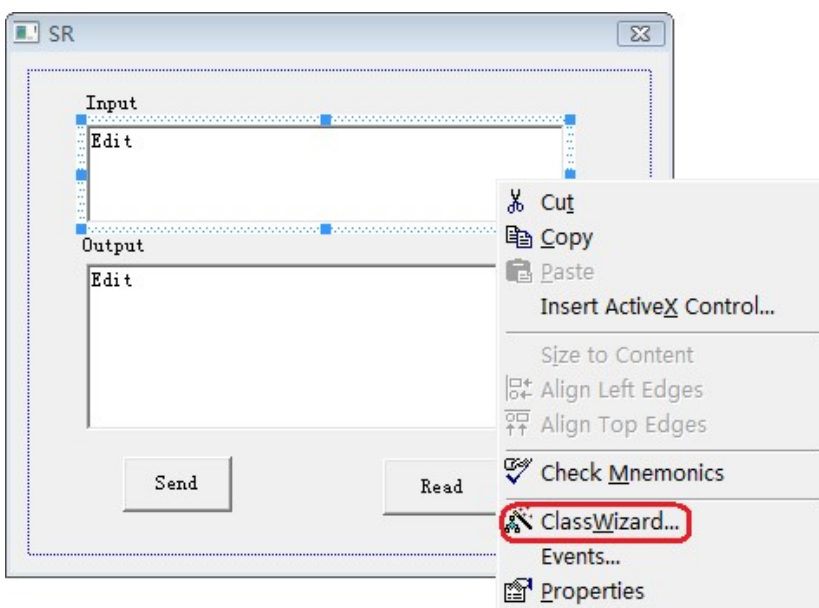
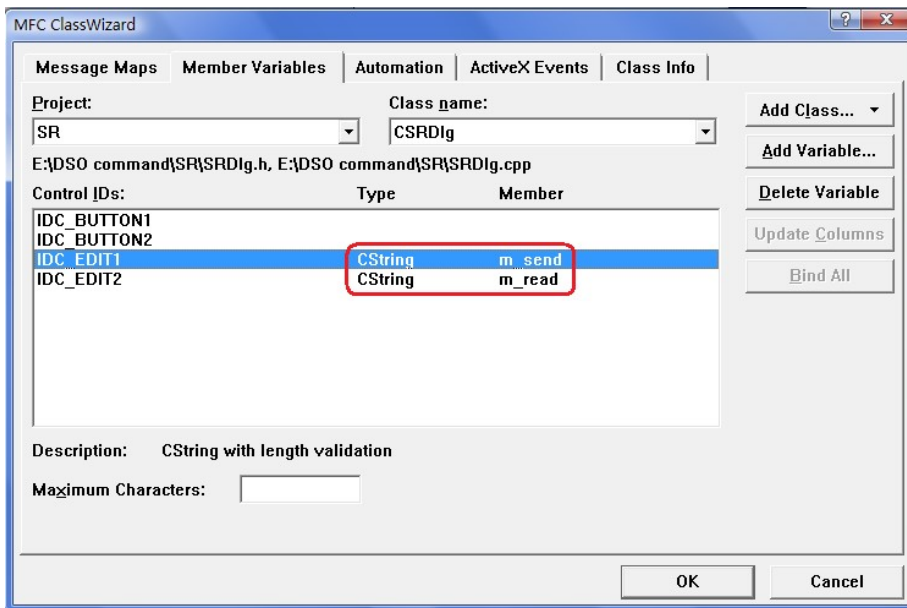

Figure 4-1-5 62
Figure 4-1-6
(1) Add two Static Text controls respectively named as Input and Output.
(2) Add two Edit controls, and then add two variables--m\_send and m\_read to them respectively. See figure 4-1-5 and figure 4-1-6.